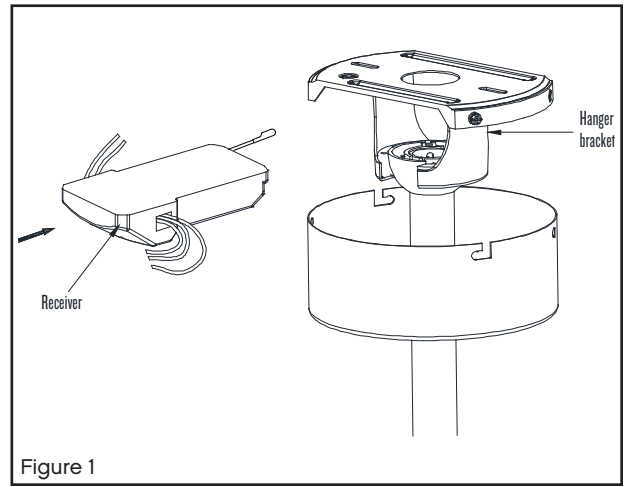

Figure 1
- 1 Insert the receiver into the ceiling mounting bracket with the flat side of the receiver facing the ceiling. (Fig. 1)